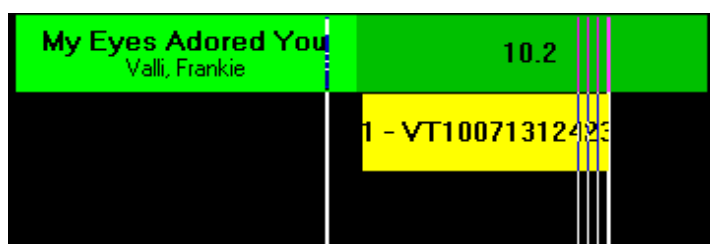

Figure 6-19. Yellow Bar Representing Recorded Audio
- h. As the voicetrack is being recorded, a yellow bar appears on the track display. The yellow bar, as shown in Figure 6-19 represents the playback position and length of your recorded voicetrack.